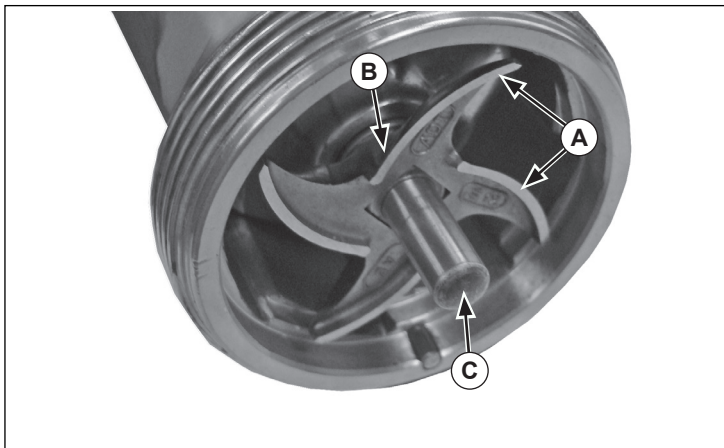

Figure 5. Knife Blade and Blade Shaft
9. Slide the knife blade (B) onto the blade shaft (C) so that it seats completely over the square (D). See Figure 5.
4. Carefully remove the knife blade (B) from the blade shaft (C). See Figure 5.